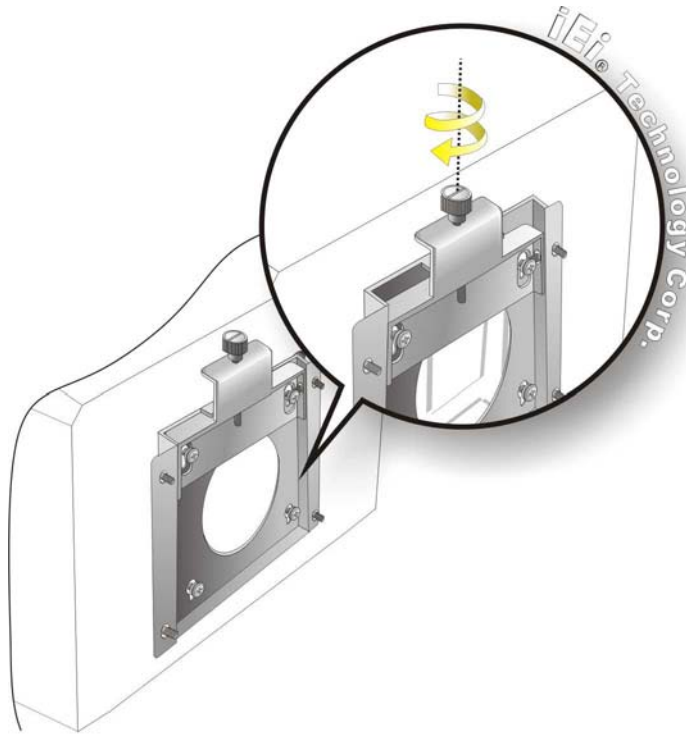

Figure 2-25: Secure the Panel PC
Step 9: Secure the panel PC by fastening the retention screw of the wall-mounting bracket. (Figure 2-25).